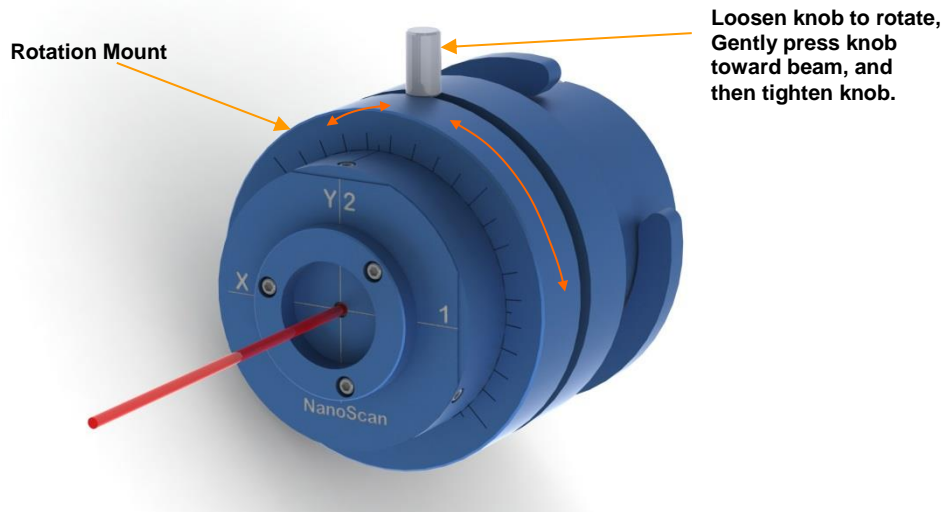

Figure 4.13 NanoScan2 Rotation Mount
4.4.3.4 The rotation mount in Figure 4.13 can be used to align the direction of scan of the slits to the laser beams axial orientation. This allows accurate measurement of elliptical beams' major and minor beam widths. The rotation mount on the scanhead can maintain axial location to $\pm 0.01\text{mm}$. (If greater accuracy is required, the rotation sleeve should be replaced by a custom designed stage).